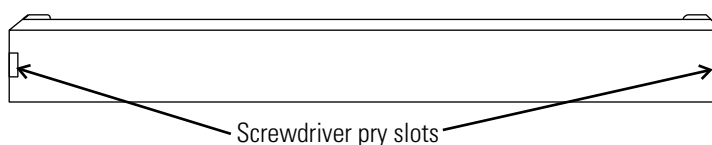

Figure 6-21. Front Cover Plate Below the Door
2. Remove the front cover plate below the door. There are small flatblade screwdriver pry slots on each end of the plate to help remove it. See Figure 6-21.